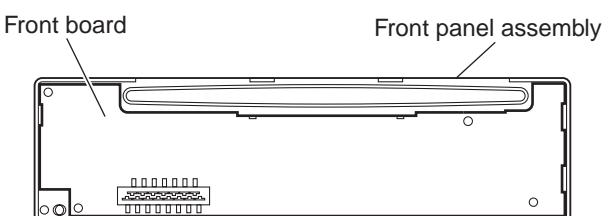

Fig.10
- (3) Release the joint **g** and take out the front board.(See Fig.10)
(See Figs.10 and 11)